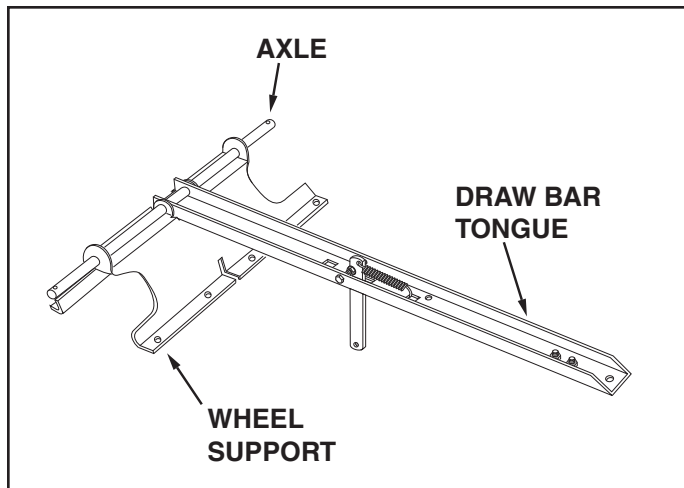

FIGURE 4
7. Place the drawbar tongue onto the wheel support and then slide the axle through the wheel support and drawbar tongue. See figure 4.